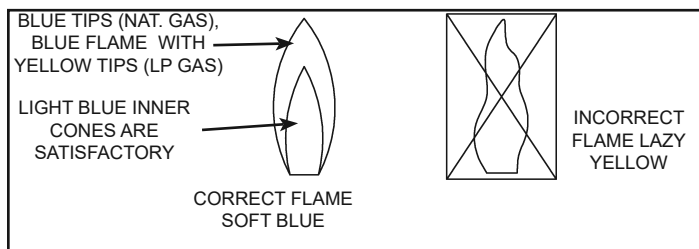

Figure 35
Inspect the burner flames through the viewport and compare them to the drawings in Figure 35. A properly operating burner should produce a soft blue flame. Blue tips with light blue inner cones are satisfactory. The tips of the flame may have a slight yellow tint. The flame should not be all yellow or have a sharp blue-orange colour. Contaminated air may cause an orange coloured flame. Contact your Reliance Home Comfort service technician if the flame is not satisfactory.
- Build up of soot and carbon on the main burner. Check for a soft blue flame (see Figure 35).
cause no excessive flame lifting from the burner ports. If the proper flame characteristics are not evident (see Figure 35), make sure that the flow of combustion and ventilation air is not blocked.